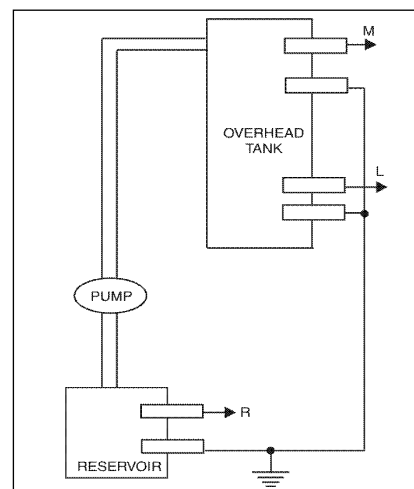

Fig. 1: Block diagram of pump controller.
The automatic pump controller eliminates the need for any manual switching of pumps installed for the purpose of pumping water from a reservoir to an overhead tank (refer Fig. 1). It automatically switches on the pump when the water level in the tank falls below a certain low level (L), provided the water level in the reservoir is above a certain level (R). Subsequently, as the water level in the tank rises to an upper level (M), the pump is